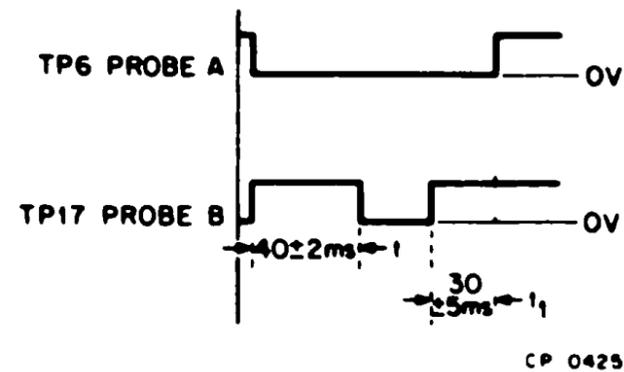

Figure 5-10 Gap Time Waveform
4. Connect the Channel 1 oscilloscope probe to TP6 (drive L) and the Channel 2 probe to TP17 (CAP Time H) of the M7760 module. Adjust the oscilloscope controls to obtain the waveforms indicated in Figure 5-10.